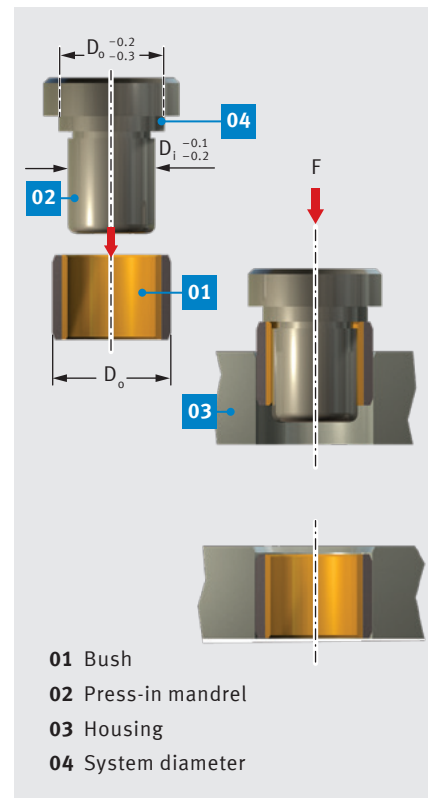

Fig. 52: Recessed press-fitting $D_o \leq 55$ mm
- Recessed press-fitting with mandrel, without auxiliary ring, as per Fig. 52.